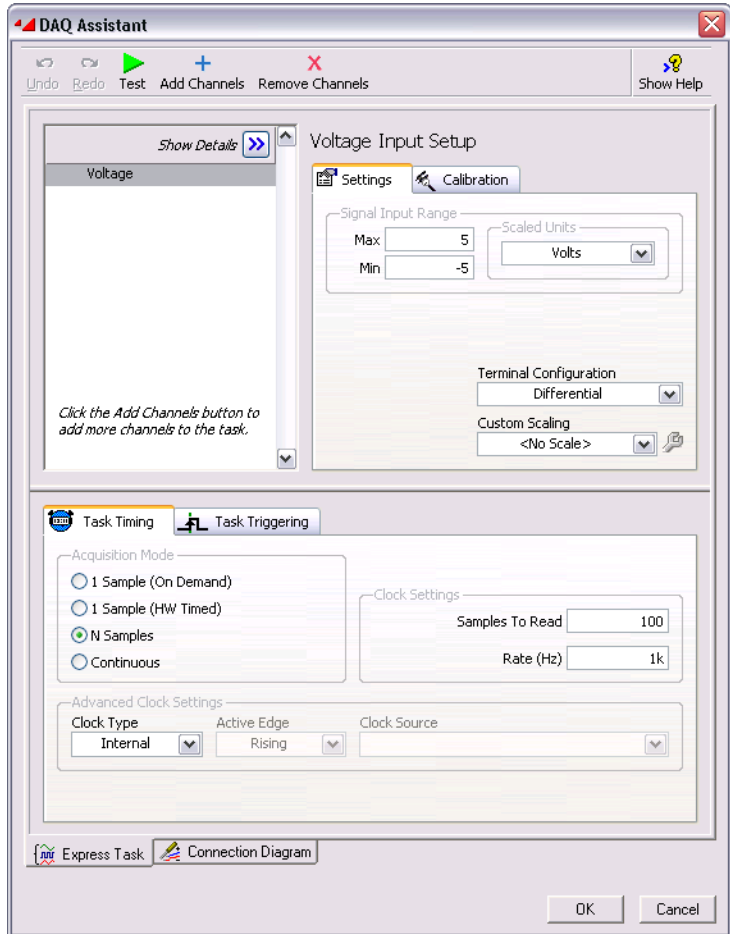

Figure 4-1. Configuring a Task Using the DAQ Assistant
6. In the **Supported Physical Channels** list, select the physical channel to which the instrument connects the signal, such as **ai0**, and then click the **Finish** button. The DAQ Assistant opens a new dialog box, shown in Figure 4-1, which displays options for configuring the channel you selected to complete a task.